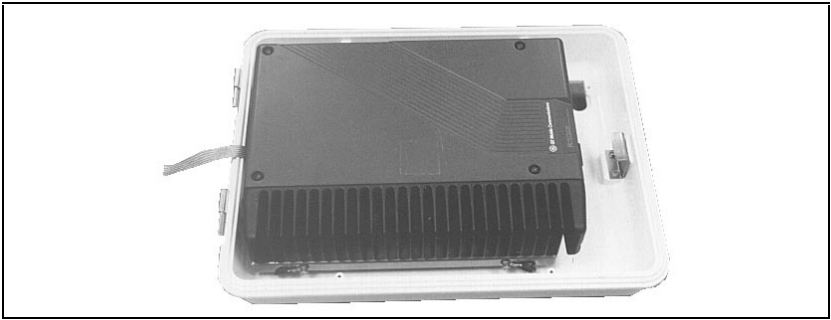

Figure 7. Radio and Base Plate Mounting
4. Refer to Figure 7 and position the radio and top mounting plate assembly over the bottom mounting plate. Align the holes in the two mounting plates (two on each side) and secure with the four machine screws (N30AP16010), lockwashers (N406P39), and (N400P9) flat washer provided. Secure the spade lugs of the 4-inch grounding straps between screws (N30AP16010) and mounting plates.